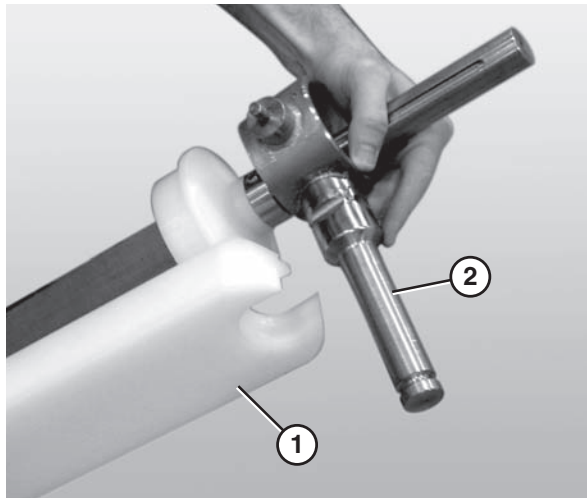

Figure 85
- Attach the guard bar (Figure 85, item 1) to the bearing / motor mount bracket shafts (Figure 85, item 2).